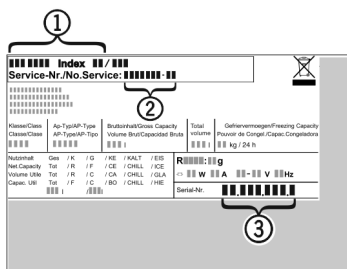

Fig. 7
- ▶ Read the appliance designation Fig. 7 (1), service No. Fig. 7 (2) and serial No. Fig. 7 (3) off the model plate located inside the appliance on the left-hand side.
- ▶ Notify the customer service, specifying the fault, appliance designation Fig. 7 (1), service No. Fig. 7 (2) and serial No. Fig. 7 (3).